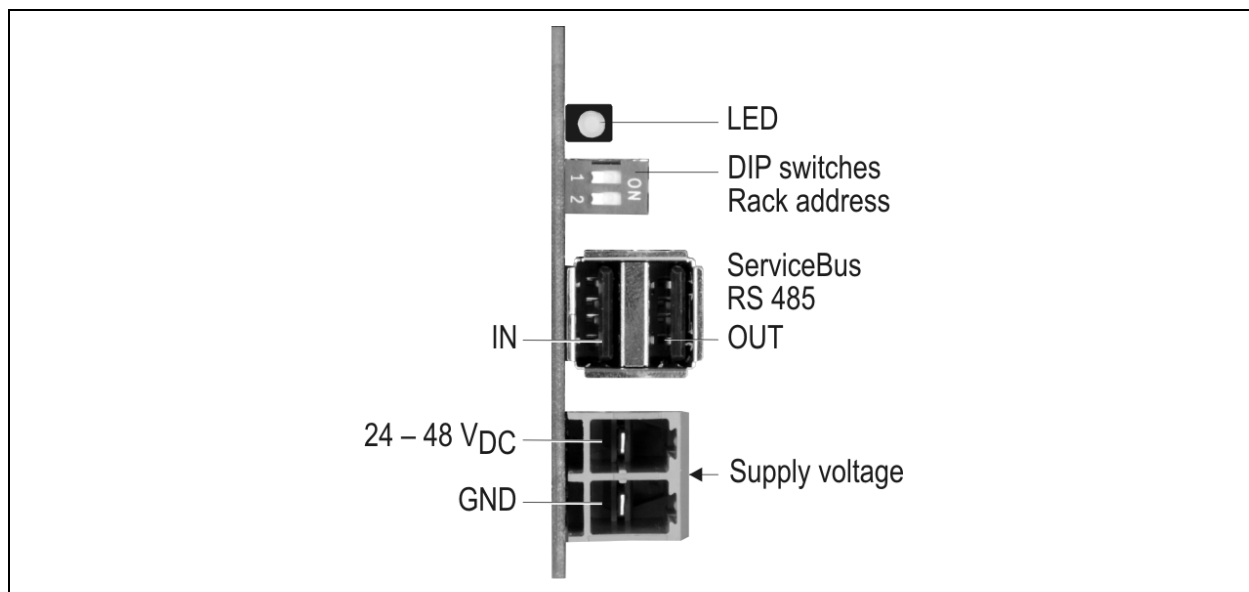

Fig. 5: PSB module type **RS 485 without** USB-RS 485 converter
2. The PSB module type **RS 485** (PSB module **without** USB-RS 485 converter) needs an external USB-RS 485 converter for ServiceBus connection to the PC (Fig. 5).